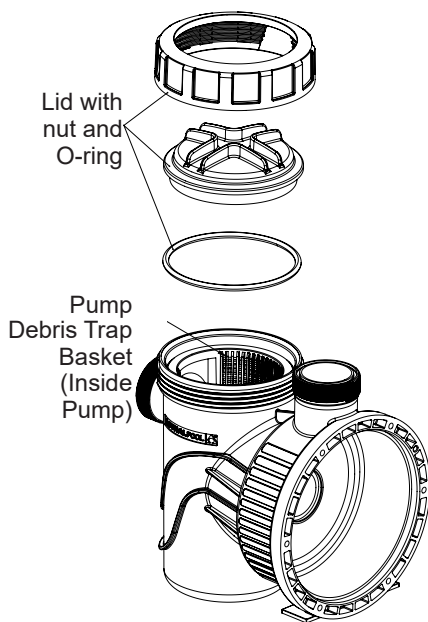

FIGURE 5 - **EXPLODED VIEW OF LID ASSEMBLY**
- The low voltage section provides two 1/2" NPT conduit ports (threaded) (see Figure 5).